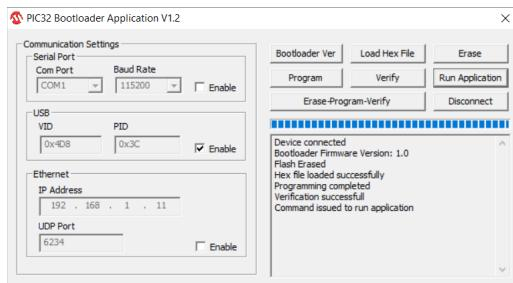

Fig. 8.9
13. Click on Program, Verify and then Run Application. (Refer Fig. 8.9)